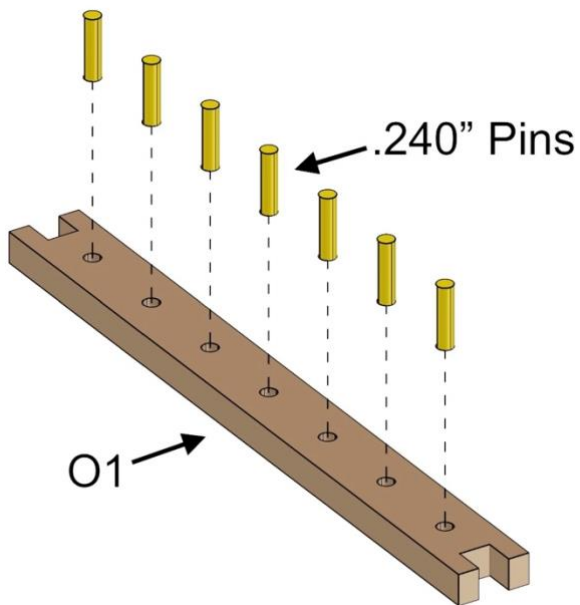

Fig. 71
- Align parts exactly as shown in Fig. 71.